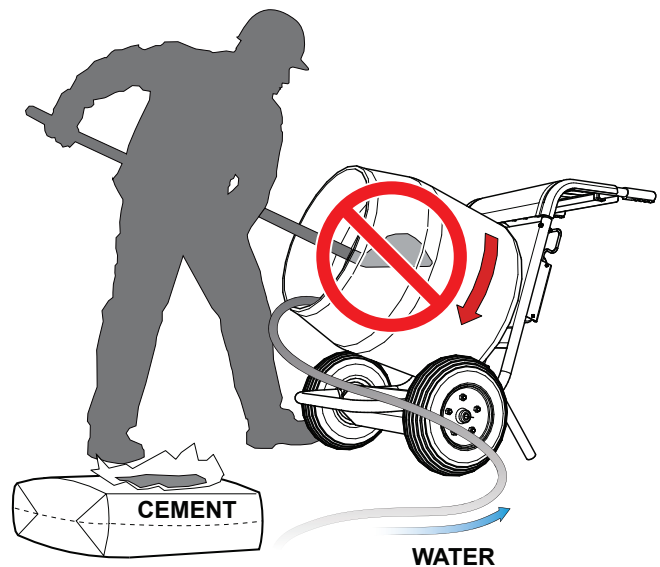
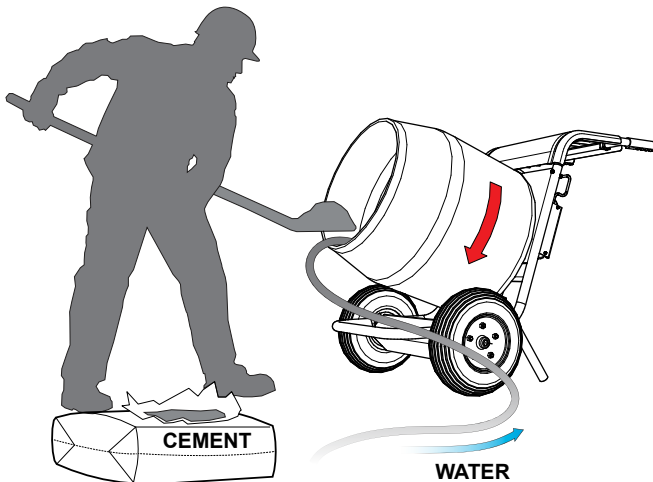

Figure 19. Shovel Inserted Too far
Figure 20. Mixing Process
Be careful to only place the **tip** (Figure 20) of the shovel inside the drum. Placing the shovel all the way inside (Figure 19) the drum will cause the shovel to strike the blades. This condition will make the shovel rotate, and could cause injury to personnel.
- As the drum rotates, this will allow the mixing process to begin. Use a shovel (Figure 20) to place the cement mix inside the drum, add water as required.